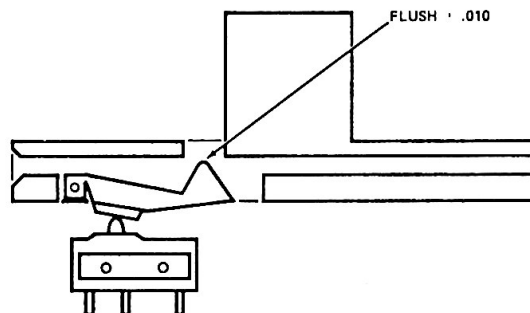

FIGURE 39. WRITE PROTECT SWITCH ADJUSTMENT
- a. Adjust the switch so that the actuator will just transfer the switch when its point is flush $\pm .010$ within the top of the groove in the guide rail. Reference Figure 39.